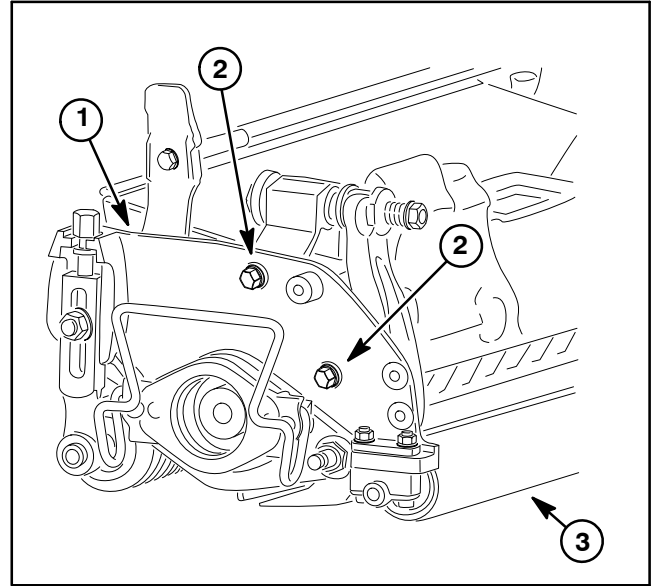

Figure 13
4. Loosen, but do not remove, the two (2) shoulder bolts that secure the side plate to the frame opposite the side that is not level (Fig. 13).